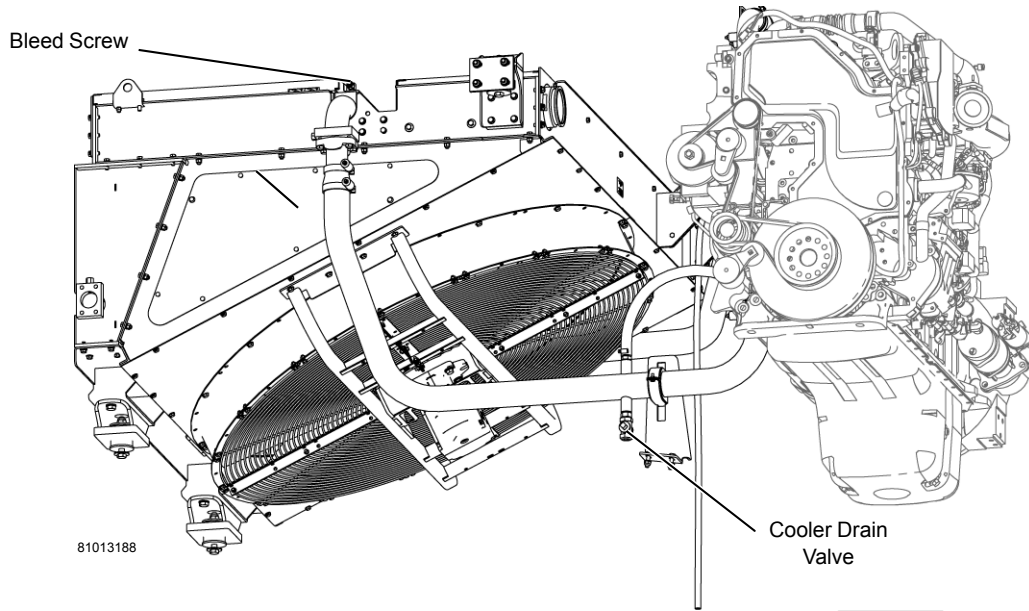
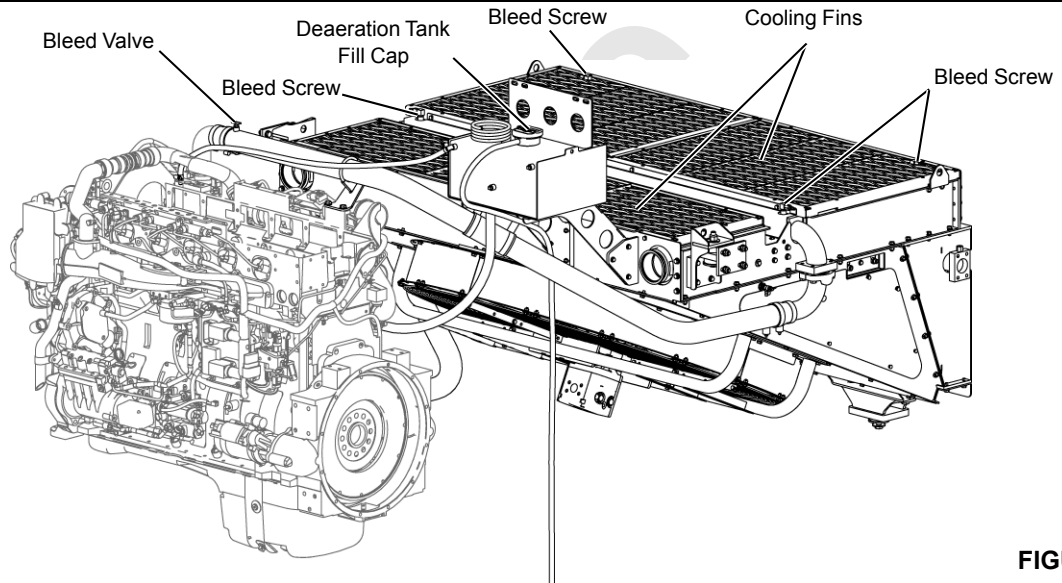

FIGURE 7-12
FIGURE 7-13
2. Open one bleed valve located on top coolant tube and four bleed screws, two located on the bracket between the two cooling fin, one on each side, and one on each outer corner of the large cooling fin (see Figure 7-12 and Figure 7-13).
3. Remove the deaeration tank fill cap (Figure 7-12).